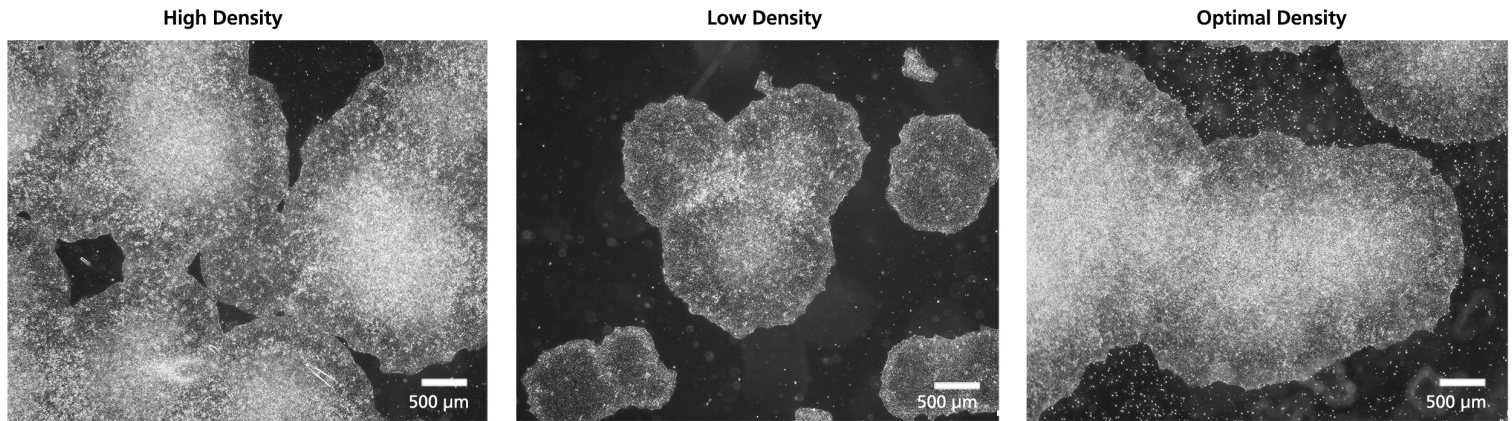

Figure 2. Representative PD hiPSCs Demonstrate Varying Colony Densities When Seeded at a Range of Starting Concentrations.
14. On Day 6 - 8, select the well with optimal hiPSC colony density for passaging (Figure 2). The culture should consist of healthy hiPSC colonies that are medium to large, compact, and have centers that are dense compared to their edges.